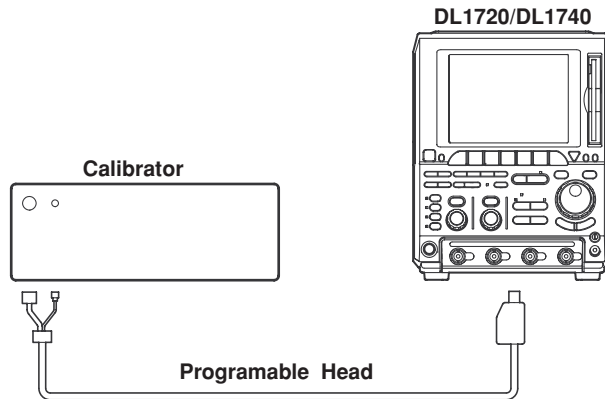

Figure 3.5 Connection Method
3. Connect each instrument as shown in figure 3.5, "Connection Method."